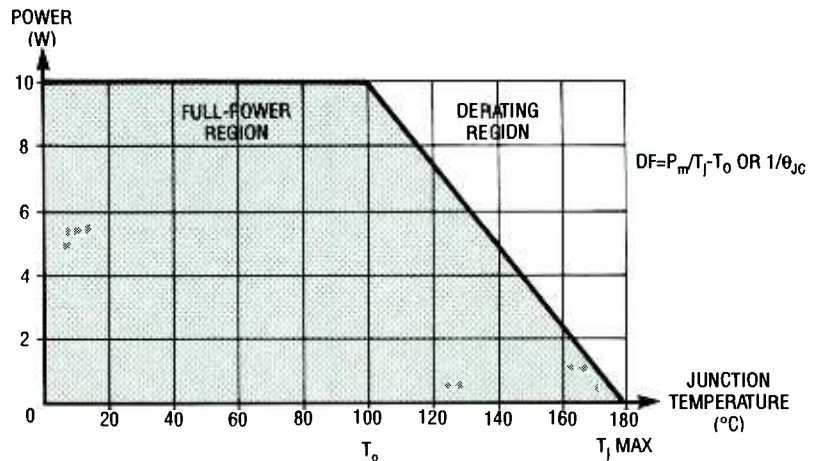

FIG. 4—A POWER DERATING CURVE shows how allowable power drops off as temperature increases.
Most manufacturers will show a detailed plot of power dissipation vs. junction temperature with their specifications. This type of plot, known as a *power derating curve*, is illustrated in Fig. 4. The derating factor (DF) is essentially the slope of the line that represents how quickly allowable power will drop off as temperature increases. Expressed another way, DF is the inverse of the junction-case thermal resistance ($1/\theta_{JC}$). Remember that power derating is for the device alone—it does not consider the